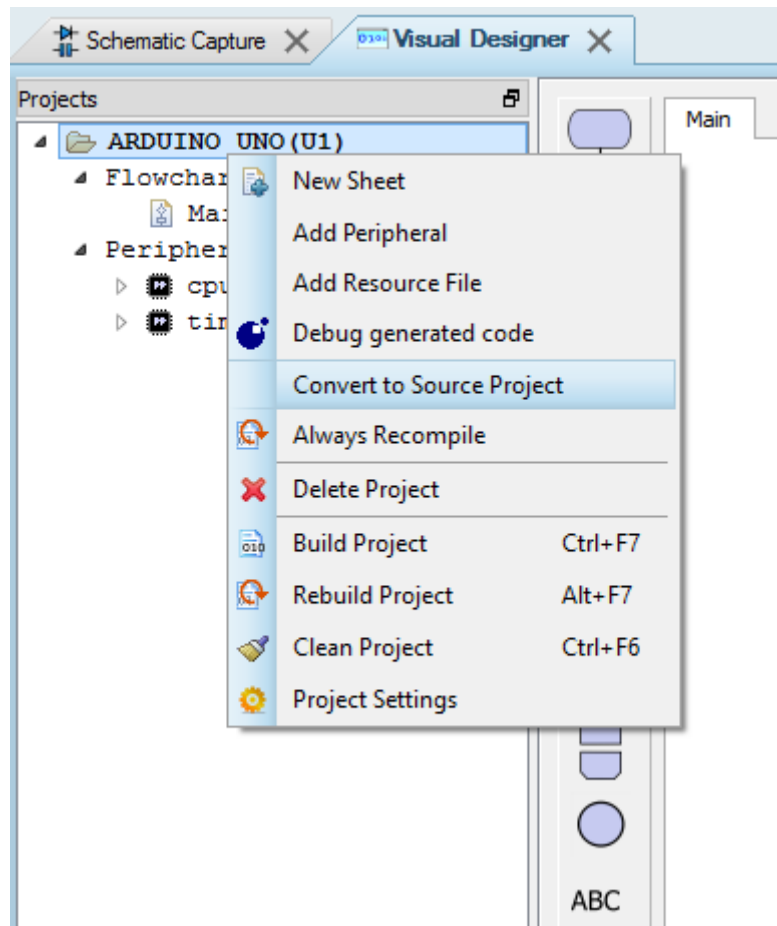

Figure 9-4: Convert to Source Project
2. Convert the project to C/C++ code, using the procedure detailed in Figure 9-4 (right click on the project folder and then select "Convert to Source Project" from the popup menu).